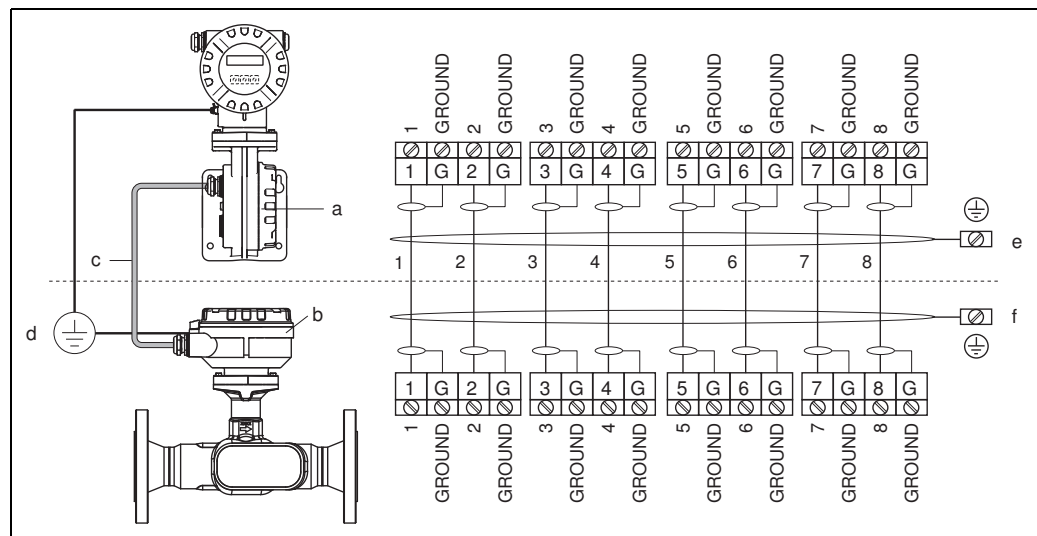

Fig. 12: Connecting the remote version
- The remote version must be grounded. In doing so, the sensor and transmitter must be connected to the same potential matching (see Fig. 12, d).
3. Wire the sensor and transmitter in accordance with the electrical connection diagram: see Fig. 12 or the wiring diagram in the cover of the connection compartment.